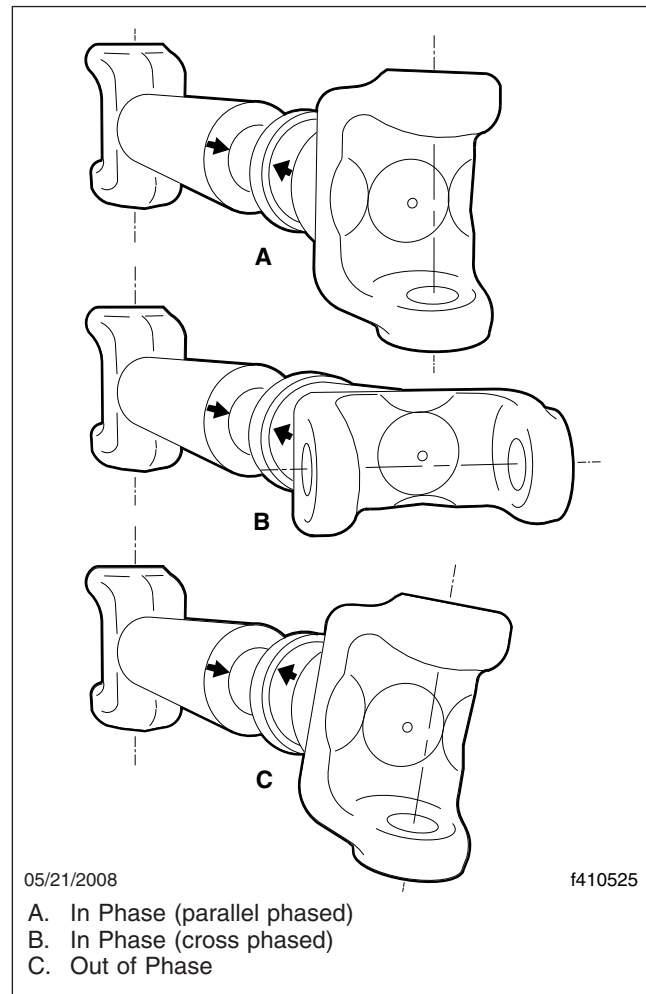

Fig. 3, U-Joint Phasing
9. Check each driveline for proper U-joint phasing. See **Fig. 3**.